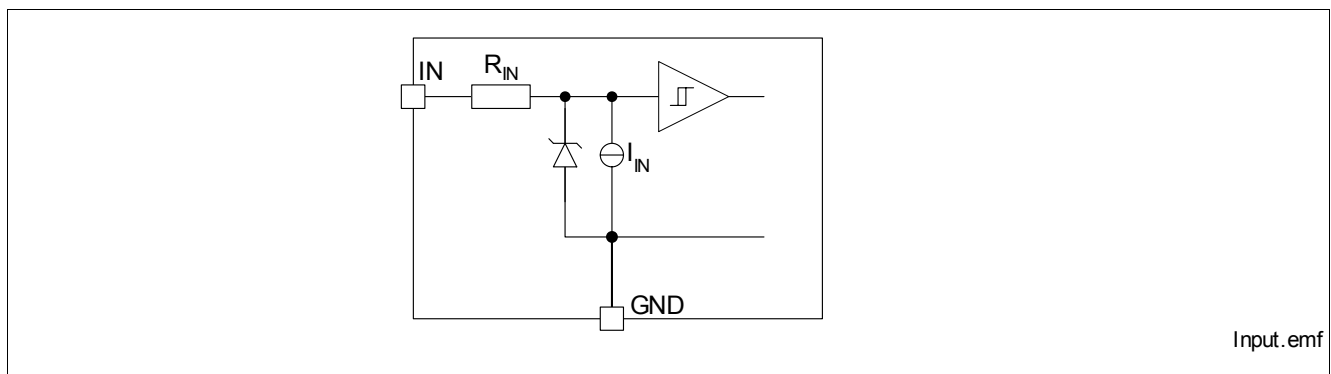

Figure 5 Input Circuit (IN1 and IN2)
**Figure 5** shows the input circuit of the BTS5242-2L. There is an integrated input resistor that makes external components obsolete. The current sink to ground ensures that the device switches off in case of open input pin. The zener diode protects the input circuit against ESD pulses.
The CLA pin circuit is designed equal to the input pin. Please refer to Figure 5 for details. Please note that the thresholds for high and low state differ between IN and CLA.